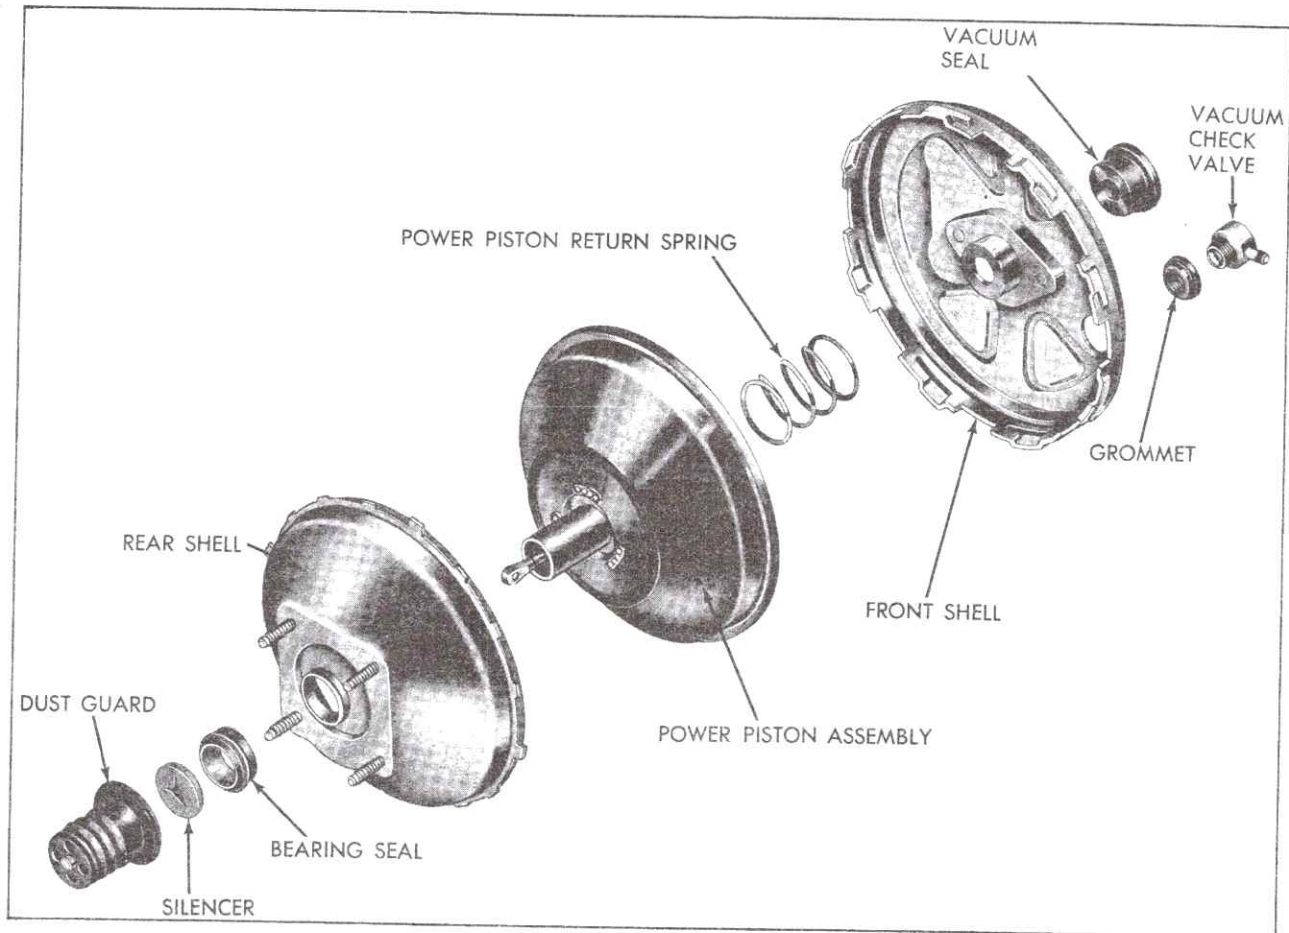

Fig. 5-13 Delco Moraine Power Head Disassembled
5. Remove rear shell, power piston assembly and piston return spring, Fig. 5-13, from front shell.